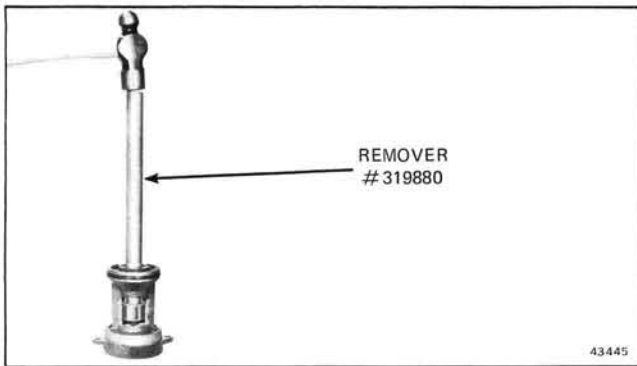

Figure 6-37. Removing Gearcase Bearing Housing Aft Bearing
15. Using OMC Special Tool #319880, drive bearing out of bearing housing. See Figure 6-37.